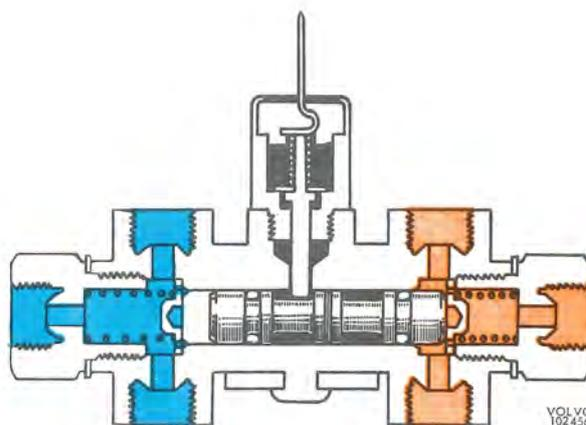

Fig. 5-40. Warning position
It is only when the pressure in the secondary circuit first exceeds that in the primary circuit by about 10 kpc/cm2 (142 p.s.i.) that the pistons are pushed so far to the right that the guide pin (4) can be pressed downwards. When this happens, the switch washer (2) reaches the housing (3) and current is cut in (Fig. 5-40). The guide pin is prevented from returning to its normal position until the fault has been rectified and the warning switch (3) removed.